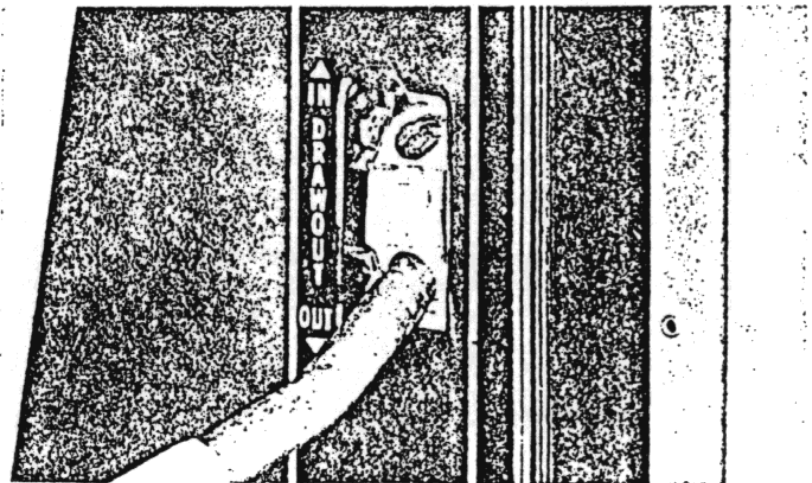

Figure 8
12. Push drawout interlock to left, insert drawout lever 1101-9251, (Figure 8) into the bottom hole of the drawout mechanism and, with an up-stroke, rack breaker into the TEST position. Remove drawout lever, drawout interlock plate should snap into position completely covering the holes.
15. When putting into service push drawout interlock to left, insert drawout lever in the bottom hole of the drawout mechanism (Figure 8) and with an upward stroke rack breaker into operating position. Remove drawout lever, interlock plate should snap in position and red IN appears.